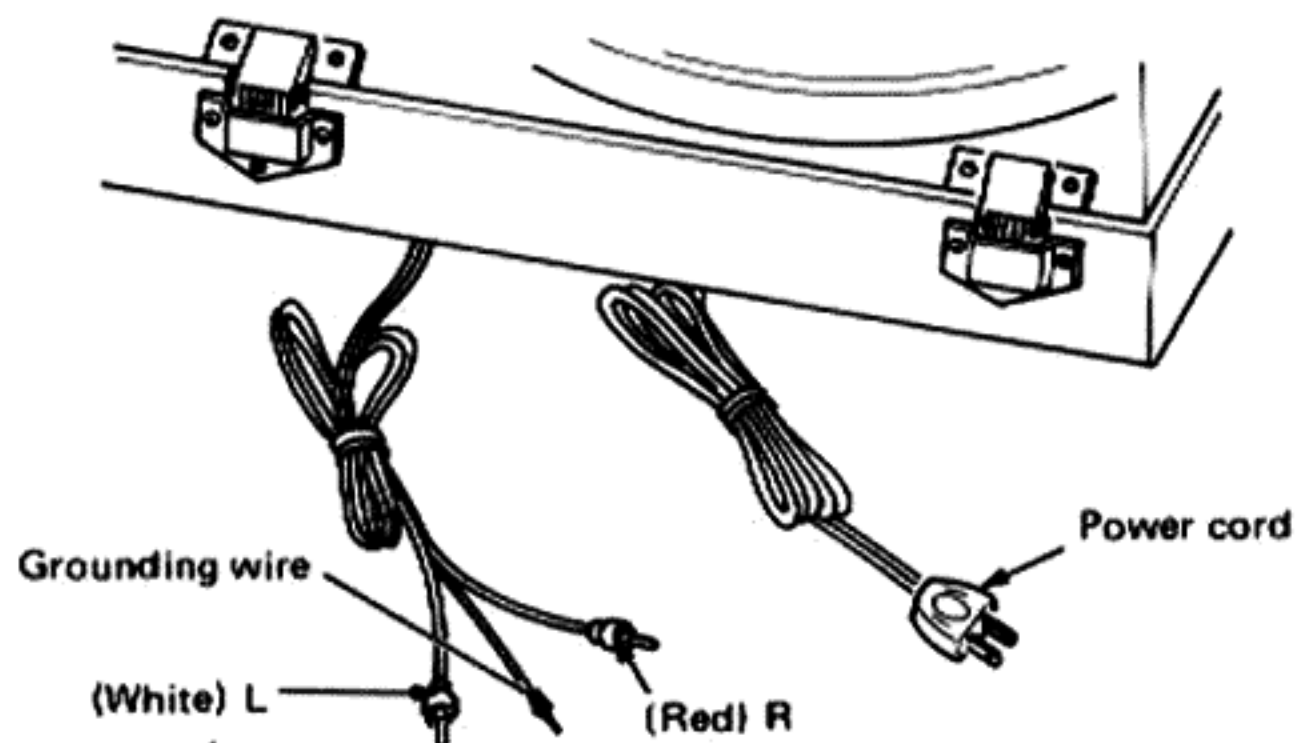

Fig. 18
9. Connection to a stereo amplifier (Fig. 18)